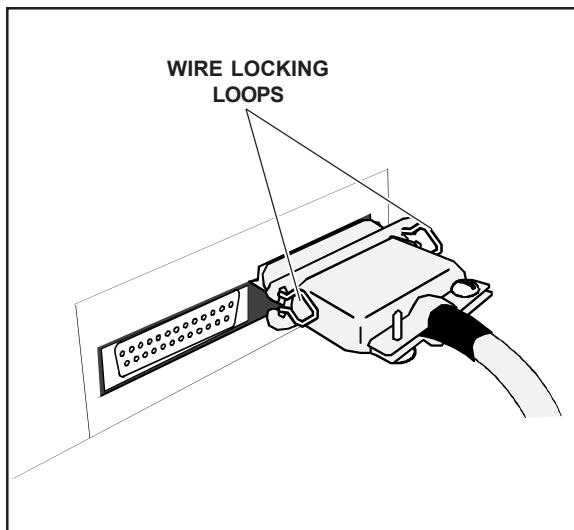
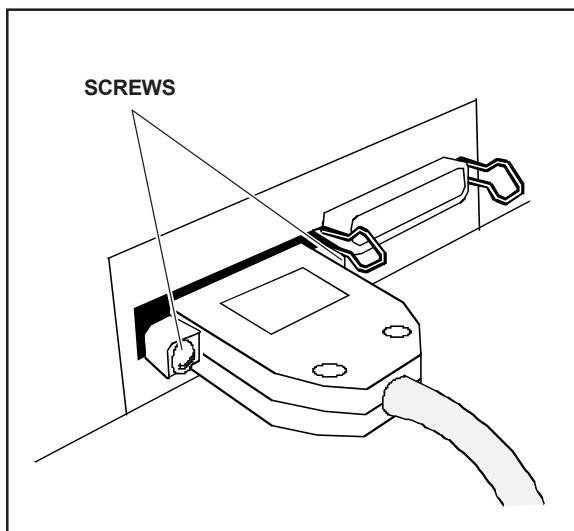

Figure 2-13. Connecting the Parallel Cable
Figure 2-14. Connecting the Serial Cable
2. If you are going to use the parallel interface, plug a parallel cable into the parallel receptacle (see figure 2-13) and lock it into place with the wire locking loops. If you are going to use the serial interface, plug a serial cable into the serial receptacle (see figure 2-14) and use a small slotted screwdriver to tighten the screws that secure the cable to the printer.